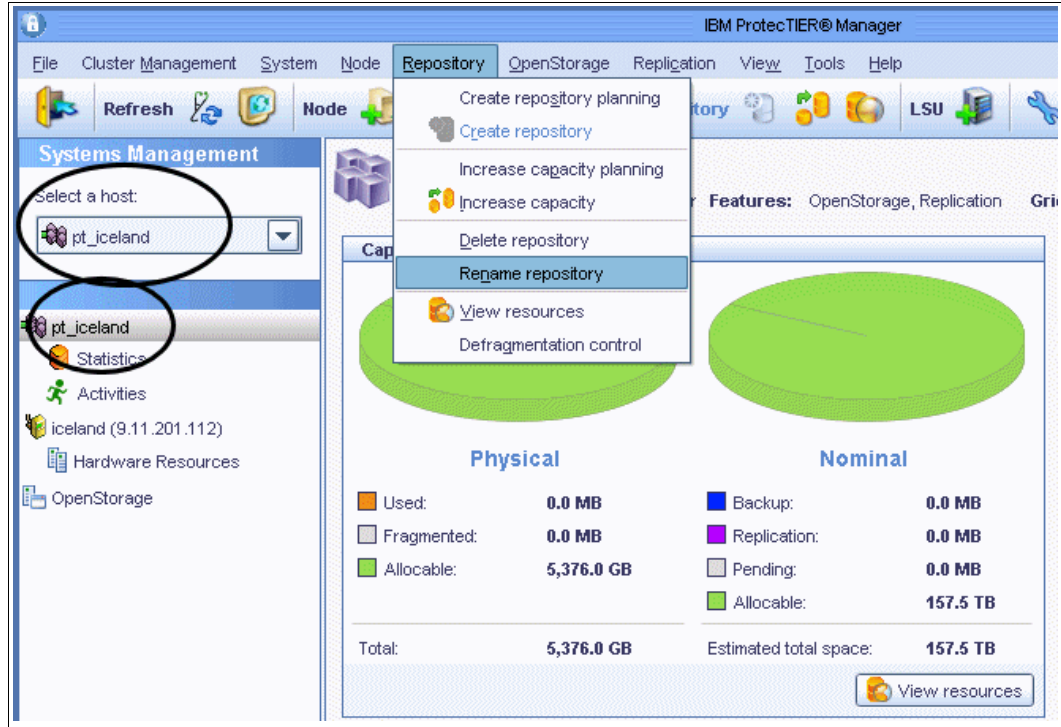

Figure 5-58 Select Rename repository
1. In the Systems Management pane, select the host on which to rename the repository. Click the system name (above Statistics). From the Repository menu, select **Rename repository** (Figure 5-58).